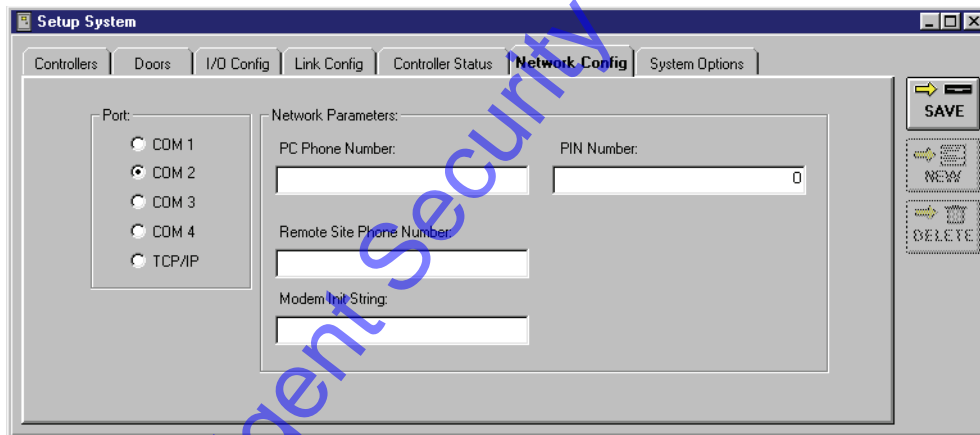

Figure 2-3: Network Configuration Tab
1. From the Setup System window, click on the **Network Config** tab. The Network Configuration window appears (see Figure 2-3).
2. Click on the COM port radio button (**1, 2, 3, or 4**) corresponding to the computer’s COM port that will be used for communication between the host computer and the access control network. This will be either the COM port to which a direct serial connection or external modem is connected, or the COM port to which an internal modem is installed. Figure 2-3 shows COM port 2 enabled.
3. Click in the “PC Phone Number” field (see Figure 2-3), and enter the phone number for the modem attached to the host computer.
- From the Setup System window, click on the **Network Config** tab. The Network Configuration window appears (see Figure 2-3 on page 4 of this section).